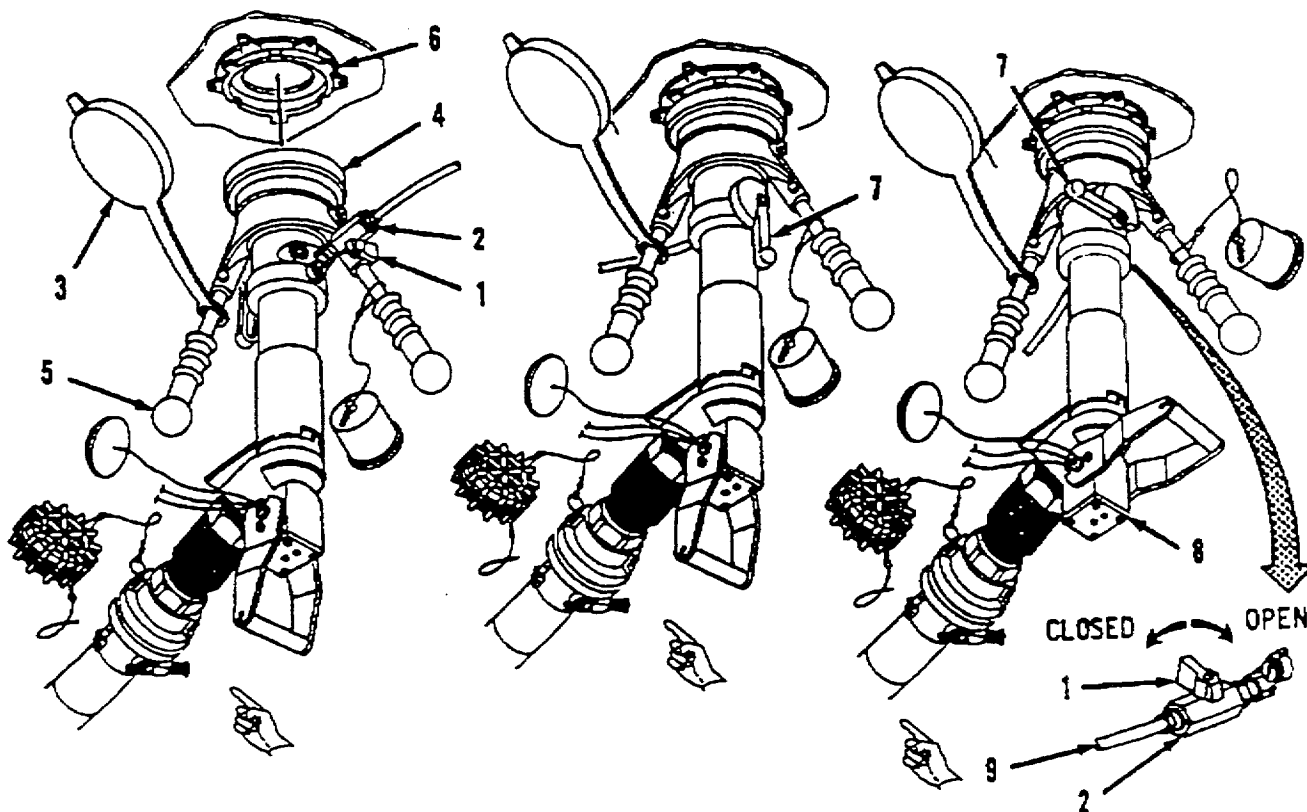

Figure 2-14. Single Point Refueling Nozzle (D1) Operation.
*Recirculation Nozzle Connection. Refer to figure 2-14.*
- (1) Set control handle (1) on ball valve (2) to close position.
- (2) Remove dust cover (3) from end of nozzle body (4).
- (3) Grasp handles (5) and hold end of nozzle body (4) in alignment with aircraft refueling adapter (6).
- (4) Press nozzle body (4) against aircraft refueling adapter (6). Turn handles (5) to the right until end of nozzle mates with aircraft refueling adapter. Continue to turn handles to the right until nozzle body locks firmly onto aircraft adapter and contacts mechanical stops.
- (5) Rotate control lever (7) to full OPEN (over center) position against the internal mechanical stop.
*Fuel Sampling. Refer to figure 2-14.*
- (6) Verify that base of control lever (7) prevents rotation of nozzle body (4) by attempting to disengage nozzle from aircraft refueling adapter (6).
- (7) Set CCR Nozzle (8) to OPEN. Refer to TM10-4930-248-13&P.
(8) To take fuel sample, place end of tube (9) in sample container.
(9) Slowly move control handle (1) on ball valve (2) to open position.
(10) When sampling is complete, set control handle (1) on ball valve (2) to close position.
*Recirculation Nozzle Disconnection. Refer to figure 2-14.*
(11) Set CCR Nozzle (8) to CLOSE. Refer to TM10-4930-248-13&P.
(12) Rotate control lever (7) to full CLOSE position (against the internal mechanical stops).
(13) Grasp handles (5) and rotate nozzle body (4) to the left until nozzle body disconnects from tanker adapter (6).
(14) Install dust cover (3) on end of nozzle body (4).